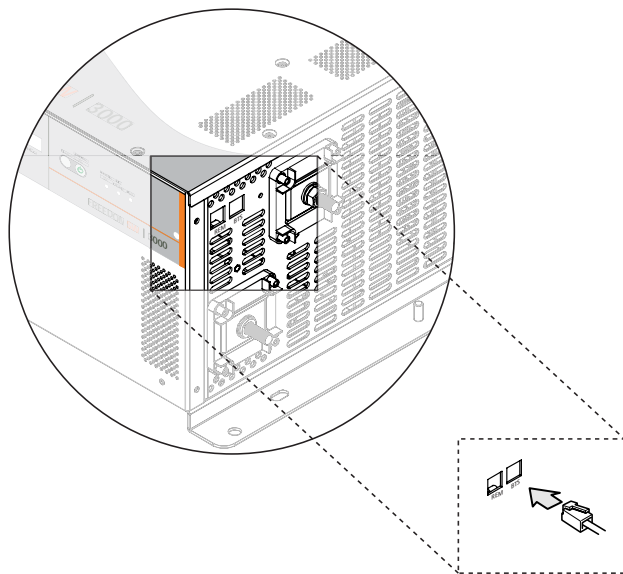

Figure 10 Connecting the BTS Cable to BTS Jack
9. Route the sensor cable to the inverter/charger and plug it into the Battery Temp jack, as shown in Figure 10. Secure the cable along its length.
6. Route the sensor cable to the inverter/charger and plug it into the Battery Temp. jack, as shown in Figure 10. Secure the cable along its length.